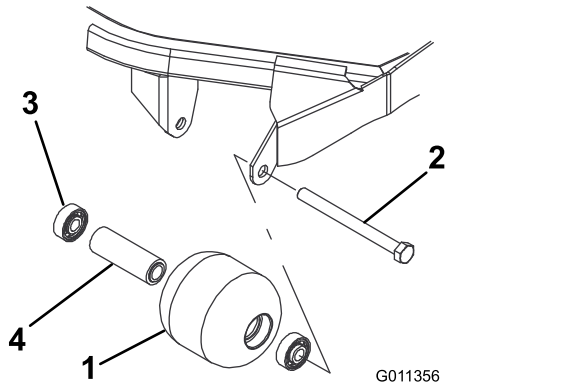

Figure 87
1. Remove the roller-mounting bolt (Figure 87).
4. Inspect the roller housing, bearings, and bearing spacer for damage (Figure 87). Replace any damaged components and assemble them.
1. Press the first bearing into the roller housing (Figure 87). Press on the outer race only or equally on the inner and outer race.
2. Insert the spacer (Figure 87).
3. Press the second bearing into the roller housing (Figure 87). Pressing equally on the inner and outer race until the inner race contacts the spacer.